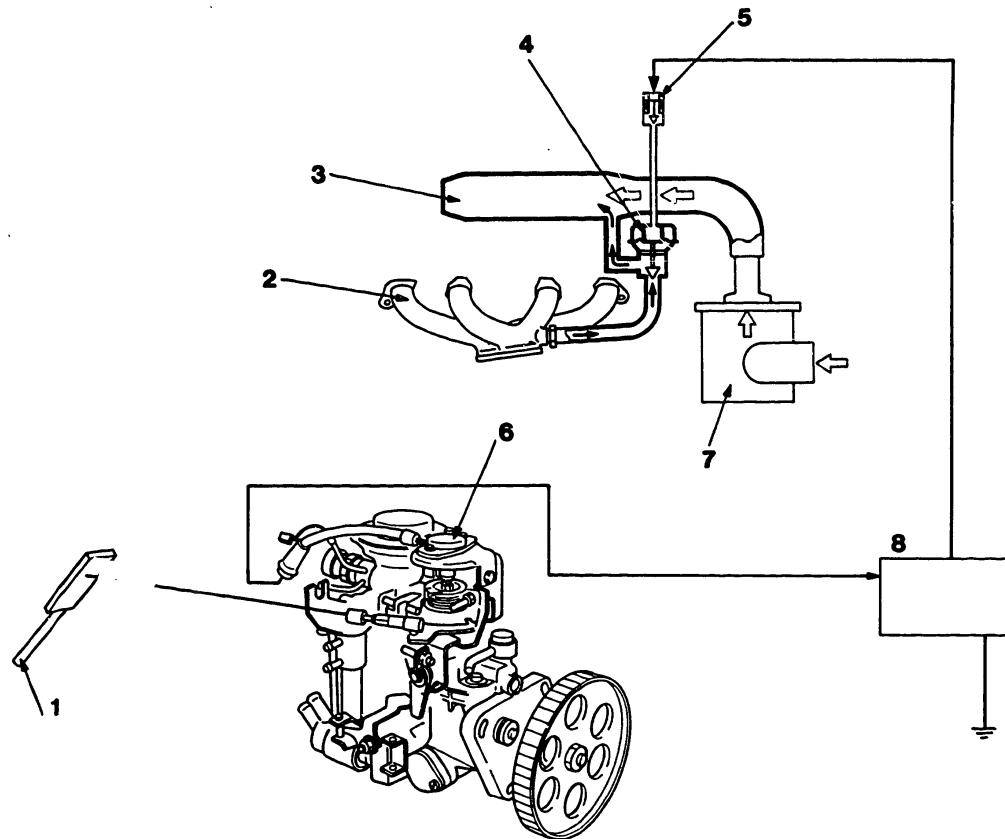

Fig. 65 E.G.R. system
**Note:** The E.G.R. system is designed to control NOx emission by recirculating the exhaust gas through the E.G.R. control valve into the intake manifold. (Fig. 65)